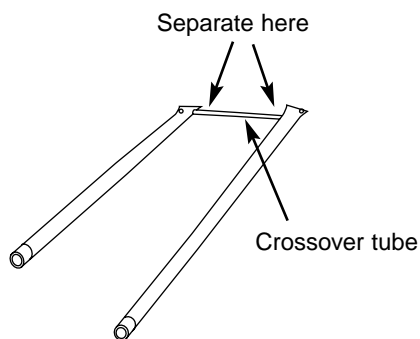

Figure 14
11. Lift and twist the burner assembly slightly to separate the crossover tube from the burners. Remove the burners from the cooking box. Figure 14.